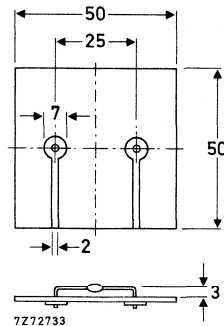

Fig. 2 Device mounted on a printed-circuit board.
2. Thermal resistance from junction to ambient; device mounted on an 1,5 mm thick epoxy-glass printed-circuit board; Cu-thickness $\geq 40\text{ }\mu\text{m}$; Fig. 2